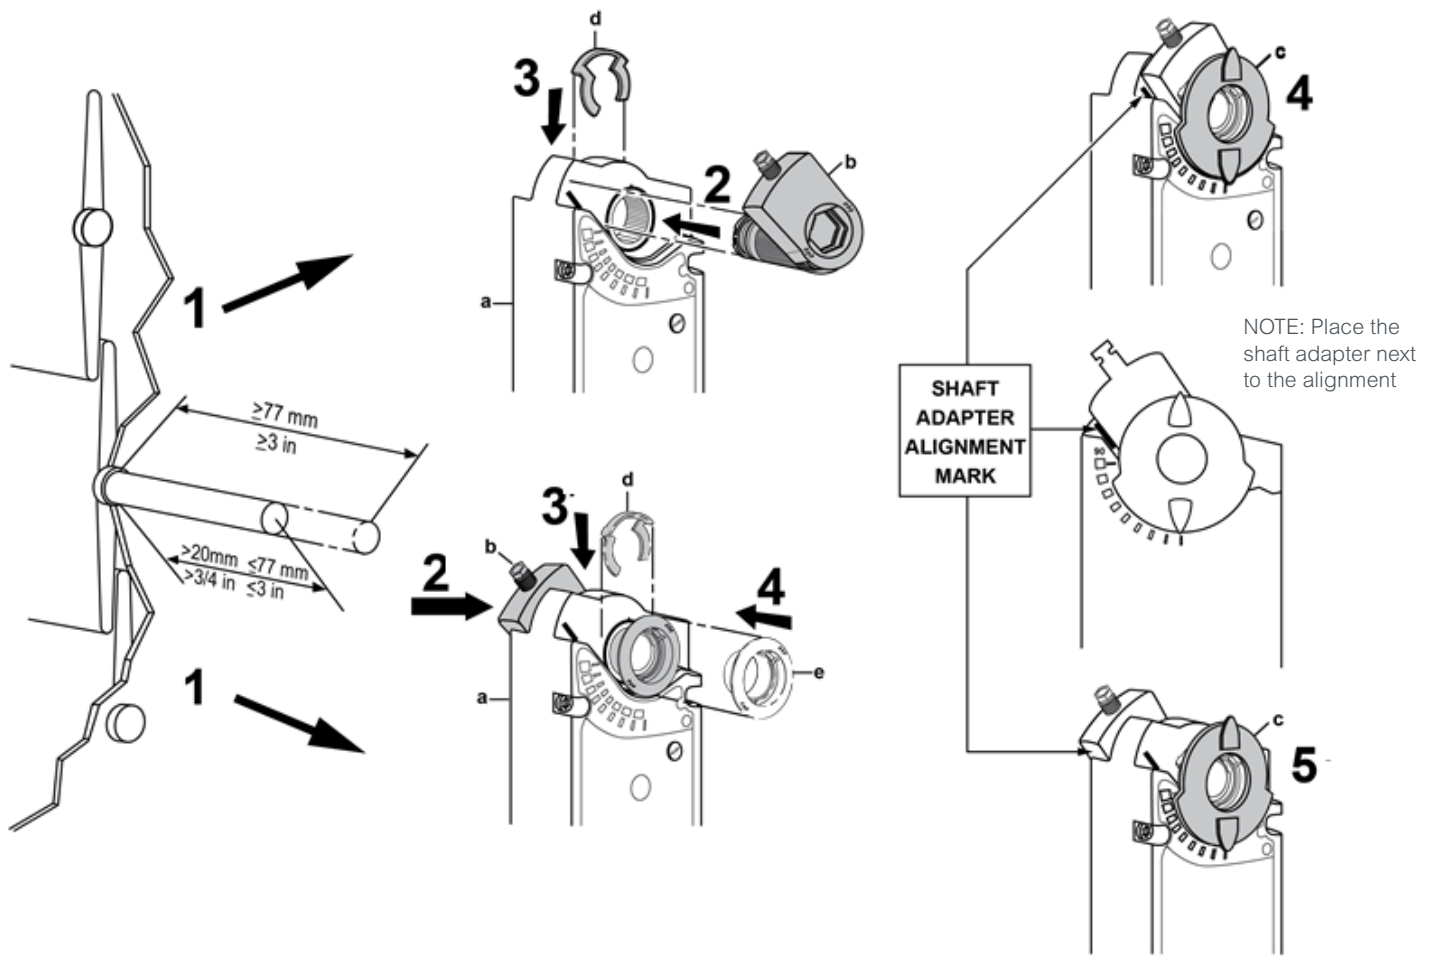
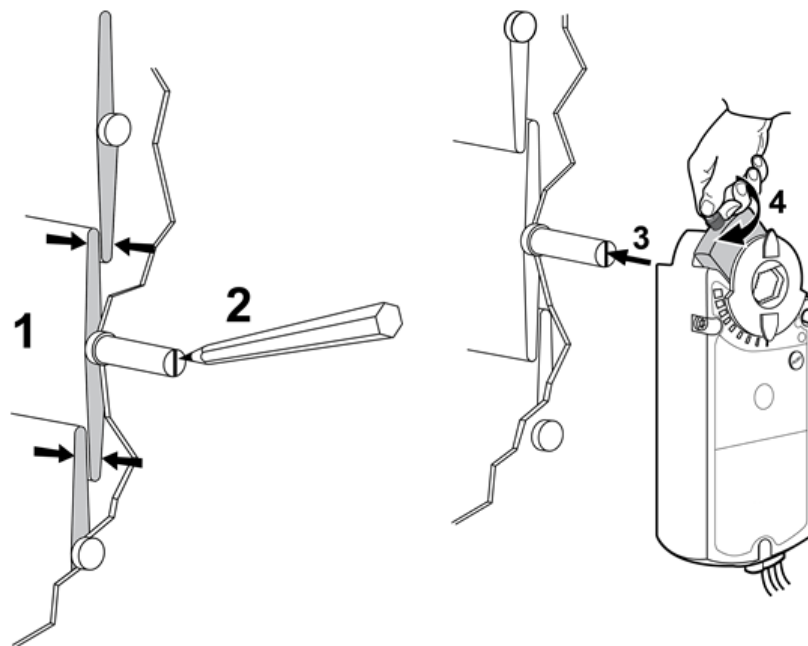
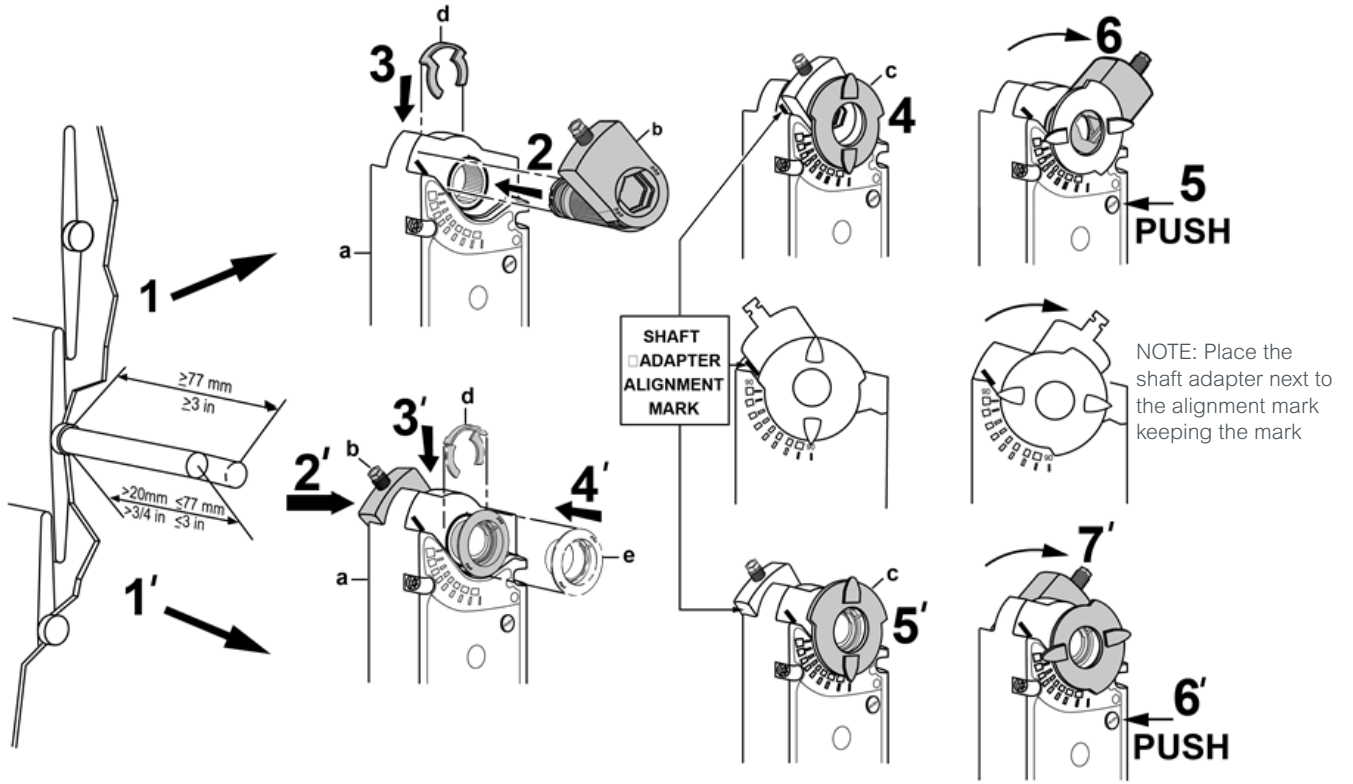
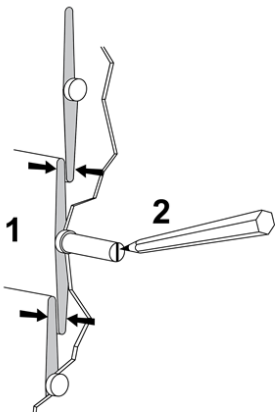

Figure 4. Shaft Adapter Placement for Clockwise Rotation on Short and Long Shafts.
Figure 5. Mount the Actuator to the Damper Shaft.
Figure 6. Shaft Adapter Placement for Counterclockwise Rotation on Short and Long Shafts.
Figure 7. Mount the Actuator to the Damper Shaft.
3. See Figure 4 and Figure 5 for clockwise-to-open (CW) installation. See Figure 6 and Figure 7 for counterclockwise-to-open (CCW) installation.